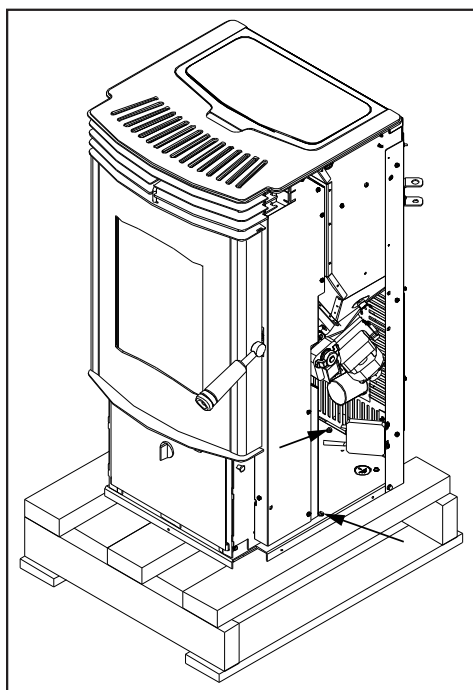

Figure 14: Screws to take out to remove stove from pallet.
4. Using a $\frac{5}{16}$ " socket or flat head screwdriver, remove the three (3) wood screws that are holding the bottom of the stove to the pallet. There is one (1) screw behind each side panel and one (1) at the back behind the back grill (refer to Figure 14).